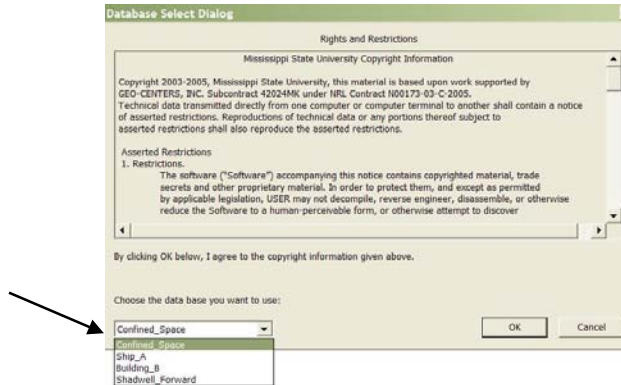

Figure 3-1 Database Selection
Step 1: The Database Selection dialog (shown in Figure 3-1) pops up. From the drop down menu, select the Confined Space database (Confined\_Space) and click OK